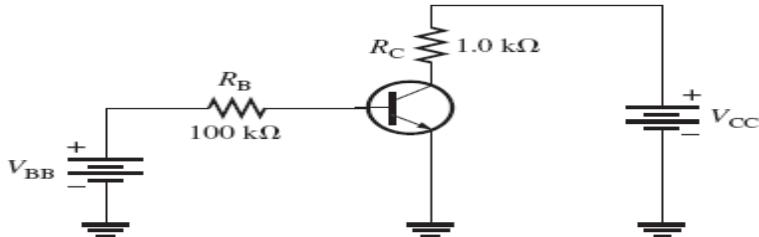

Figure 4–53
- 12.** A base current of 50 mA is applied to the transistor in Figure 4–53, and a voltage of 5 V is dropped across R_C . Determine the β_{DC} of the transistor.